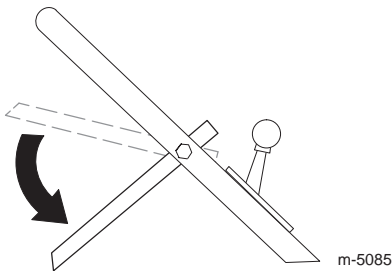

Figure 12
7. Start the engine with the blade control bail down to its lowest position (Fig. 12).
3. Push the blade control bail (Fig. 12) down to its lowest position.